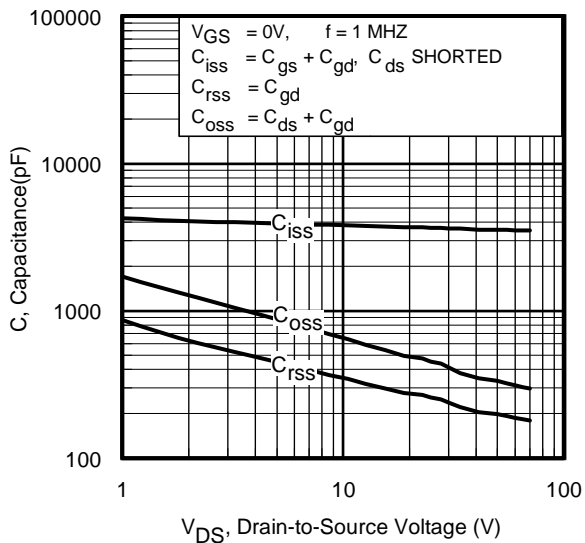

Fig 5. Typical Capacitance vs. Drain-to-Source Voltage
| C _{oss} eff. (TR) | Effective Output Capacitance (Time Related) ^⑧ | — | 520 | — | | V _{GS} = 0V, V _{DS} = 0V to 60V ^⑥ , See Fig. 5 |